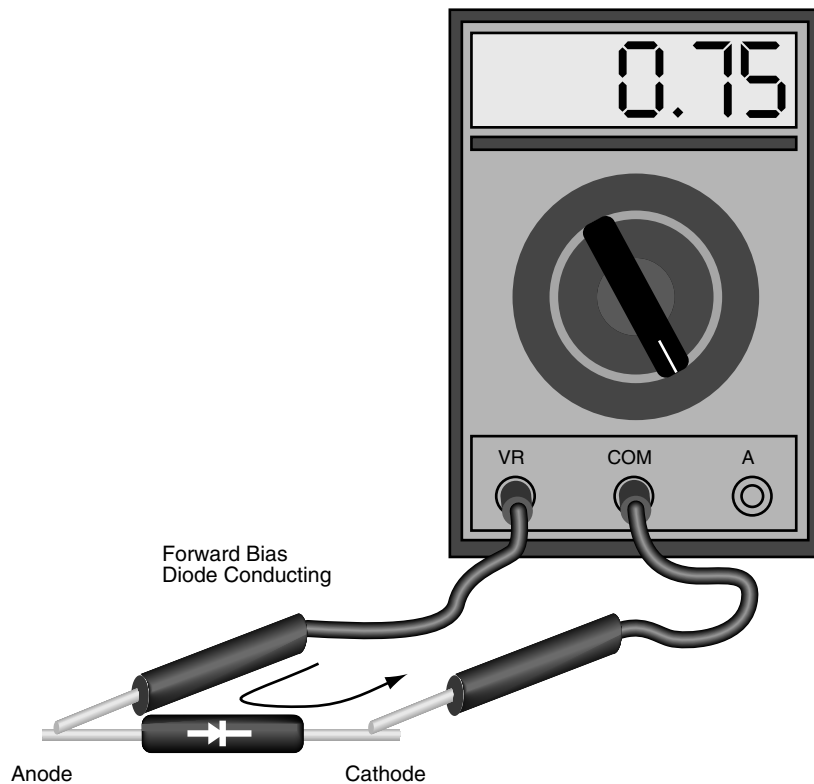

Figure 1. Forward bias diode test
4. Using figure 1 and 2, check each diode in the module. Each diode must be checked in both the forward bias (positive to negative) and reverse bias (negative to positive) direction.
5. To check the diode in the forward bias direction, connect the volt/ohm meter positive lead to the anode (positive, +) of the diode and the negative lead to the cathode (negative, -) of the diode (refer to figure 1). A properly functioning diode will conduct in the forward bias direction, and will indicate between 0.3 and 0.9 volts.
6. To check the diode in the reverse bias direction, reverse the meter leads (refer to figure 1). A properly functioning diode will block current flow in the reverse bias direction, and depending on the meter function, will indicate an open or "OL".